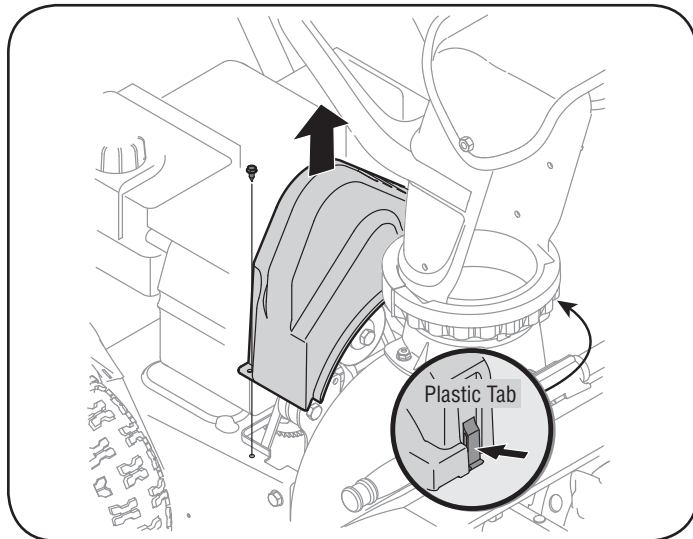

Figure 13
2. Remove the belt cover screw using a 5/16 socket with extension and slightly raise belt cover. You must also unclip the plastic tab on the other side to raise this up. Do not attempt to remove the belt cover from the unit at this time. See Figure 13.